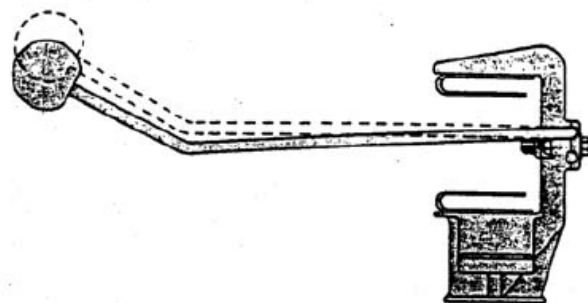

**Figure 18: Arcing horn attachment. Blade arcing horn (arrow) goes under jaw horn.**
3. Install the arcing horn and corona shield on each jaw as shown in Figure 18. The horns should touch *lightly* throughout their stroke. Arcing horns rubbing together with excessive pressure can cause the blade to rotate outside the contacts causing switch malfunction. Bend the stationary horn as required to achieve enough pressure for contact, but not so much as to cause binding.